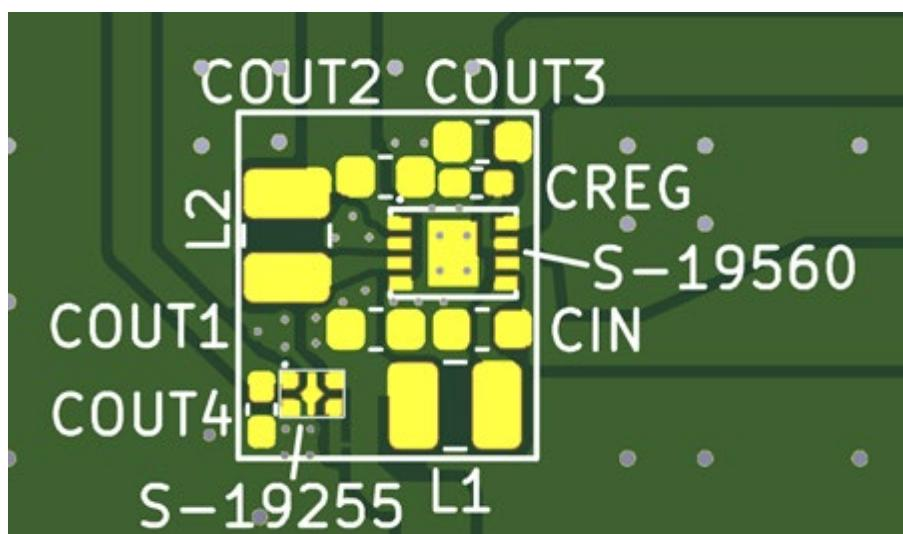

Figure 8 Board Layout Example (Enlarged)
- In the board layout example in **Figure 8**, the distance between the S-19255 Series input and COUT₁ is shortened in order to omit the input capacitor for the S-19255 Series. If the S-19255 Series will be installed in a more distant location, add an input capacitor for the S-19255 Series.